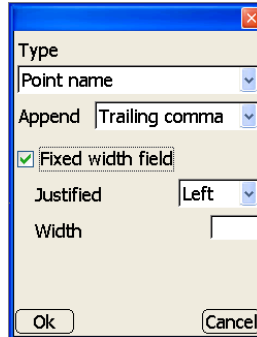

Figure 3-6. Enter Line Items Parameters
- On the **Line items** tab, press **Add** to add a line item. On the **add line items** dialog box, enter the following information and press **Ok** (Figure 3-6 on page 3-5):